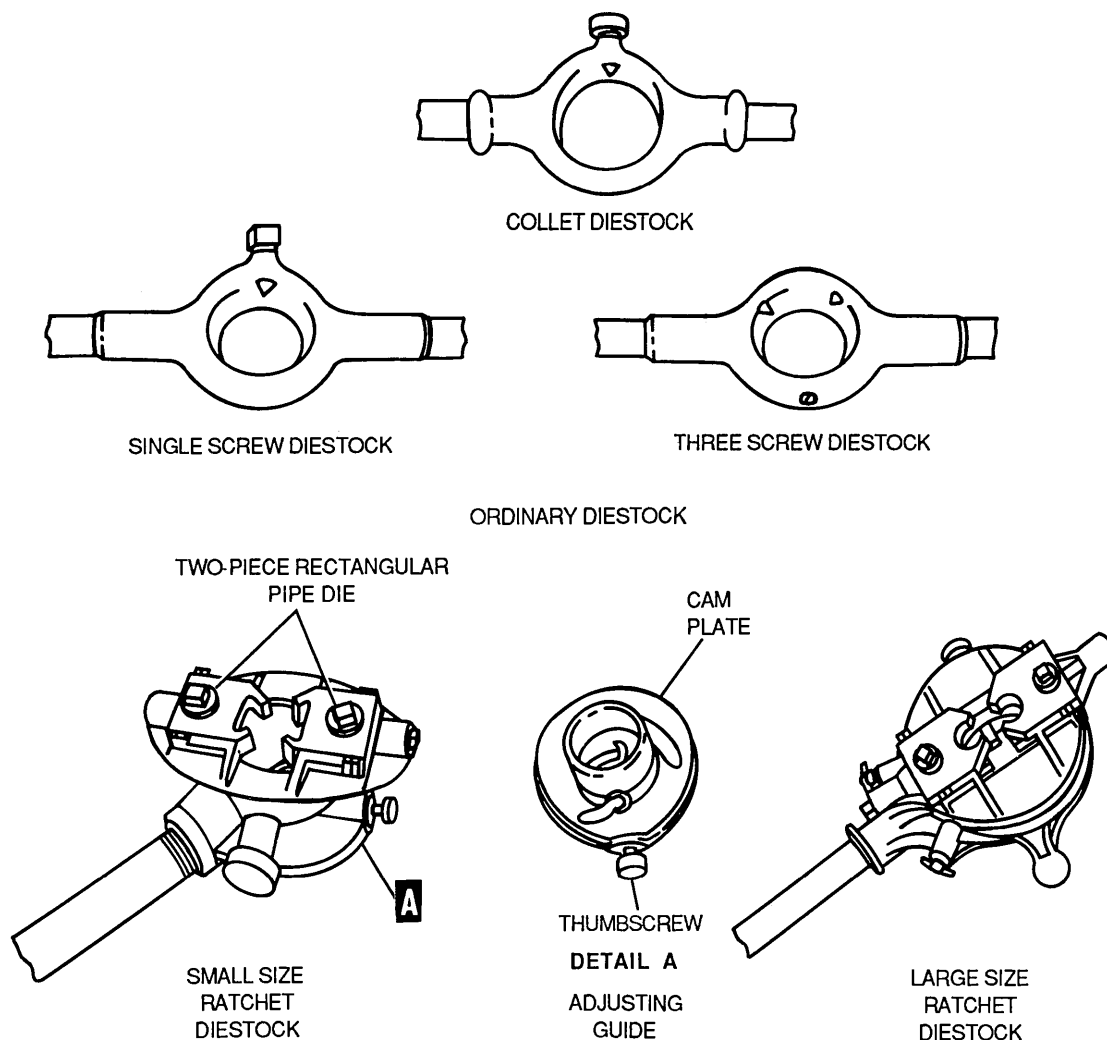

Figure 4-105. Diestocks
(3) **Diestocks.** Figure 4-105 shows the ordinary and ratchet-type diestocks normally used with dies. The ratchet-type diestocks are usually used with rectangular pipe dies.